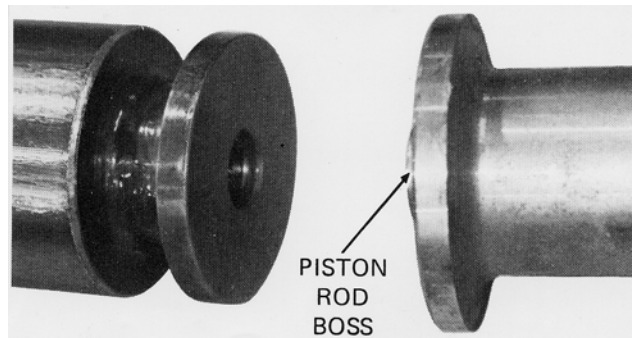

Figure 4-15 Piston and extension rod flanges
5. Position the piston rod flange against the extension rod flange with the pilot boss on the piston rod fitting into the hole in the extension rod. (Figure 4-15).